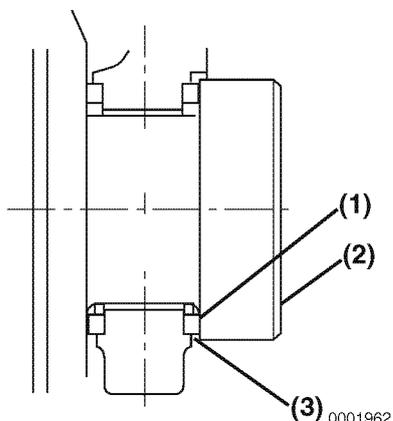

Figure 6-56
- **Method B:** Use a feeler gauge to measure the clearance (**Figure 6-56, (3)**) between the thrust bearing (**Figure 6-56, (1)**) and crankshaft (**Figure 6-56, (2)**). Record the measurement. See *Thrust Bearing on page 6-8 for the service limit.*